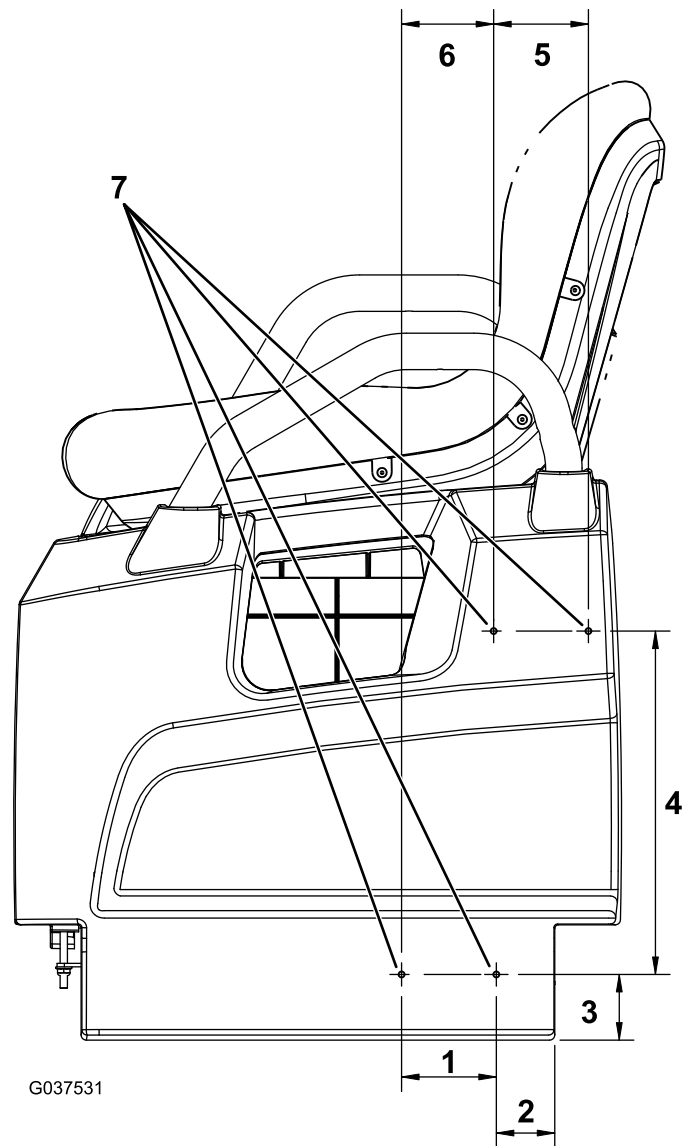

Figure 11
1. On the left side of the machine, measure 51 mm (2 inches) from bottom, left of the seat base side, and mark this location (Figure 11).
2. Measure 57 mm (2.25 inches) directly above the location and mark this location (Figure 11).
3. Measure 83 mm (3.25 inches) from the left of the location marked in step 2, and mark this location (Figure 11).
4. Measure 80 mm (3.16 inches) from the left of the location marked in step 3, then measure 299 mm (11.78 inches) directly above this location, and mark this location (Figure 11).
5. Measure 83 mm (3.25 inches) from the right of the location marked in step 4, and mark this location (Figure 11).
6. Drill a 5 mm (13/64 inch) hole at each of the 4 marked locations (Figure 11).